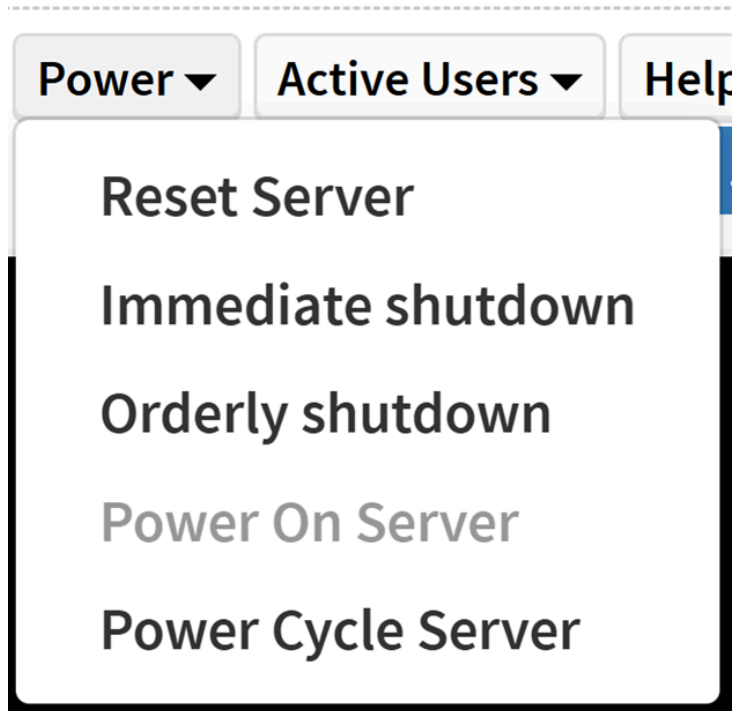

Figure 103. Power Menu Options in the KVM Interface
- B. From the Power menu (refer to Figure 103), select the desired action: